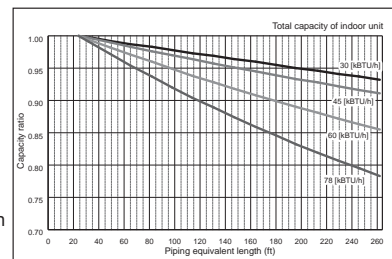

Figure 3 Correction of refrigerant piping length
- Piping Length Correction (100 ft) 0.96 (Refer to Figure 3)